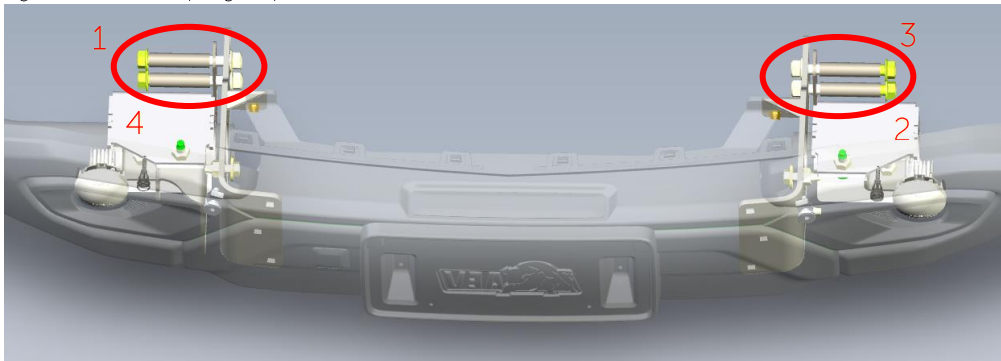

Figure 9 - M12 Torquing Sequence
- b. M12 Bolts - M18 socket - 112 +/- 8 Nm - Fig. 9